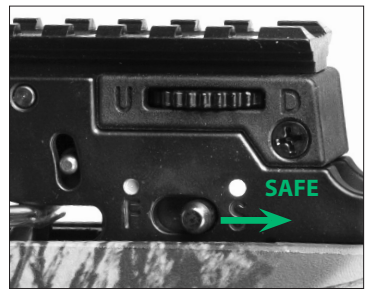

FIGURE 2
2. Slide the safety switch from the FIRE position to the ON SAFE position. (Fig. 2)
4. Carefully inspect the safety switch to ensure that it is fully in the ON SAFE position (Fig. 2). If the safety switch has not moved all the way back to the WHITE dot, it has not been placed ON SAFE and is still in FIRE position. Always visually inspect the safety switch to make certain that it is in the desired position.